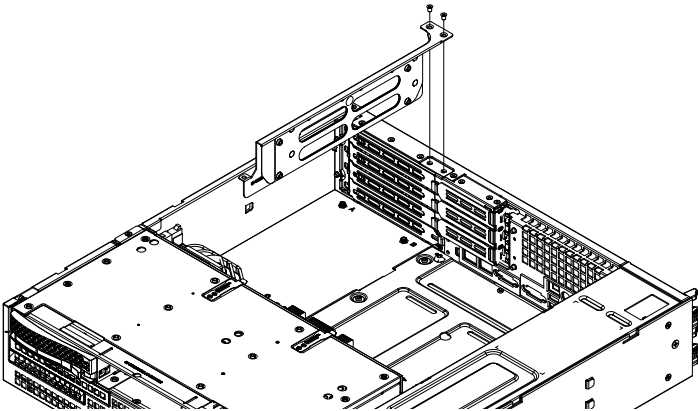

Figure 4-9. Riser Card Bracket
2. Release the clamp that secures all four full-height PCI shields (Figure 4-9). Looking at the rear of the chassis, this clamp is in the right corner. Unscrew the single screw that secures the clamp and rotate the clamp away from the shields. Remove the blank PCI shield covering the expansion slot in the chassis.
4. Insert the riser card(s) into the serverboard expansion slot(s) while aligning the riser card bracket with the rear of the chassis. Secure the bracket with screws (Figure 4-9).